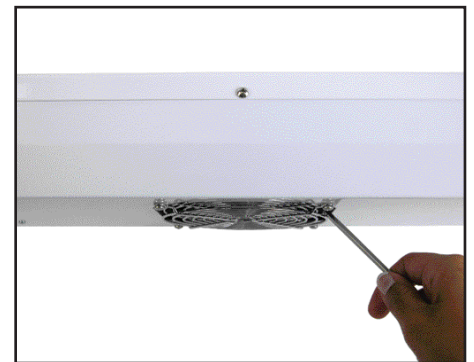

Figure 8. Shorting the ionizer's two fan grills
- VIII. Test each fan's alarm by shorting its two grills located on the bottom side of the ionizer (see Figure 8). The alarm should sound and the STATUS LED should illuminate red.